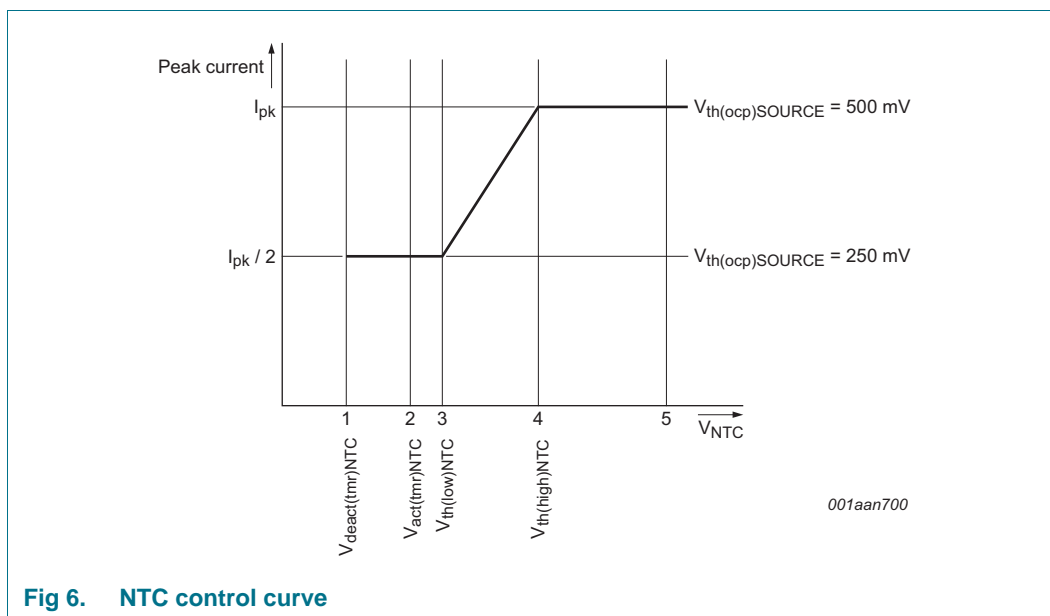

Fig 6. NTC control curve
Alternatively, the pin can be used as an input to disable/enable light output using a digital signal (PWM dimming). The pin has an internal current source which generates a current $I_{\text{offset(NTC)}}$. An NTC resistor, for monitoring the LED temperature, can be directly connected to the NTC pin. Depending on the resistance value and the corresponding NTC pin voltage, the converter reacts as shown in Figure 6
When the voltage on the NTC pin is higher than $V_{\text{th(high)NTC}}$, see Figure 6\(4\), the converter delivers nominal output current. When the voltage is lower than this level, the peak current is gradually reduced until $V_{\text{th(low)NTC}}$ is reached, see Figure 6\(3\). The peak current is now half the peak current of nominal operation. When $V_{\text{act(tmr)NTC}}$ is passed, see Figure 6\(2\), a timer starts to run which distinguishes between the following situations:
- If the low-level $V_{\text{deact(tmr)NTC}}$ is not reached within time $t_{\text{to(deact)NTC}}$ Figure 6\(1\), LED overtemperature is detected. The IC stops switching and attempts to restart from the HV pin voltage. Restart takes place when the voltage on NTC pin is higher than $V_{\text{th(high)NTC}}$, see Figure 6\(4\). It is assumed that the reduction in peak current did not result in a lower NTC temperature and LED OTP is activated.
- If the low-level $V_{\text{deact(tmr)NTC}}$ is reached within the time $t_{\text{to(deact)NTC}}$ Figure 6\(1\), it is assumed the pin is pulled down externally. The restart function is not triggered. Instead, the output current is reduced to zero. PWM dimming can be implemented this way. The output current rises again when the voltage is higher than $V_{\text{deact(tmr)NTC}}$.
The NTC pin can be used to make a soft start function. During switch-on, the level on the NTC pin is low. By connecting a capacitor (in parallel with the NTC resistor), a time constant can be defined. The time constant causes the level on the NTC pin to increase slowly. When passing level $V_{th(low)NTC}$ Figure 6\(3\), the convertor starts with half of the maximum current. The output current slowly increases to maximum when $V_{th(high)NTC}$ Figure 6\(4\) is reached.